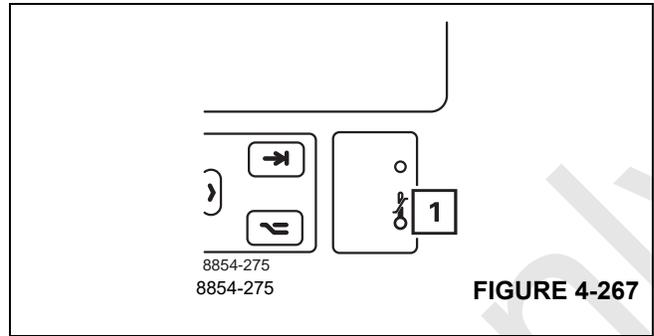

FIGURE 4-267
If the temperature on the display is too high, the brightness is reduced automatically – lamp (1), (Figure 4-267) lights up.
When the temperature falls, the specified brightness is restored – lamp (1), (Figure 4-267) goes out.